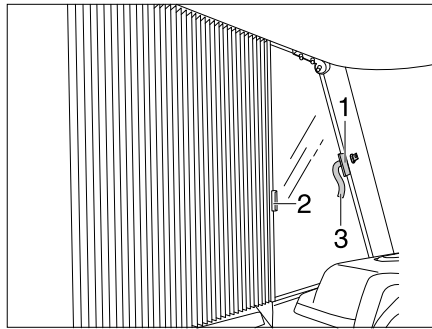

Fig. 13 Securing the Roman shades on driver's/front passenger's windows
- Use the handles (Fig. 13,2) to push the Roman shades for the driver's window and the front passenger's window under the covers and secure with the Velcro loops (Fig. 13,1 and Fig. 13,3). The Roman shade is secured.